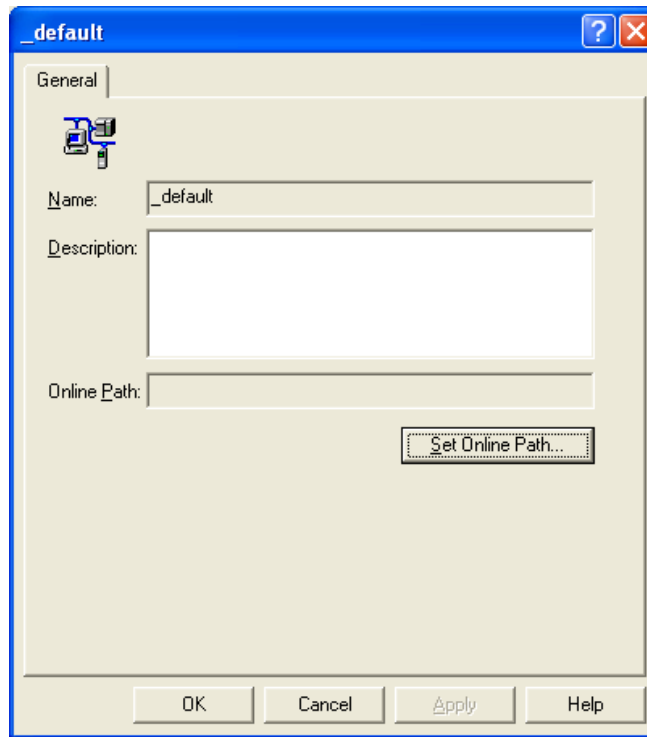

Figure 62: RSNetWorx Set Online Path
- a) Once the EDS files have been registered, navigate to Network...Properties. Click Set Online Path... (see Figure 62).